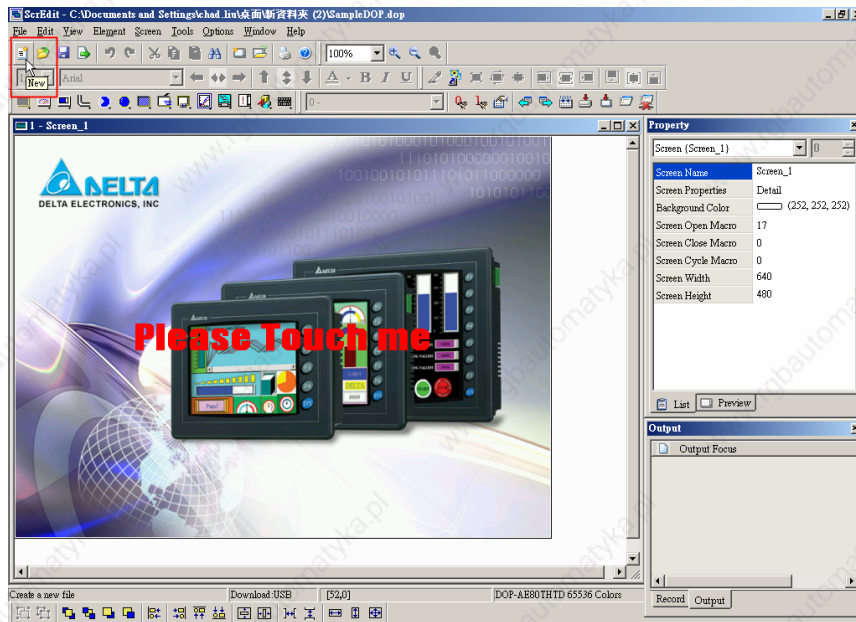

Fig. 2.3.3 Create new application (Choosing New icon from toolbar)
2.3.2) or clicking the New icon  from toolbar (Fig. 2.3.3), or using keyboard shortcuts by pressing **Ctrl + N**.